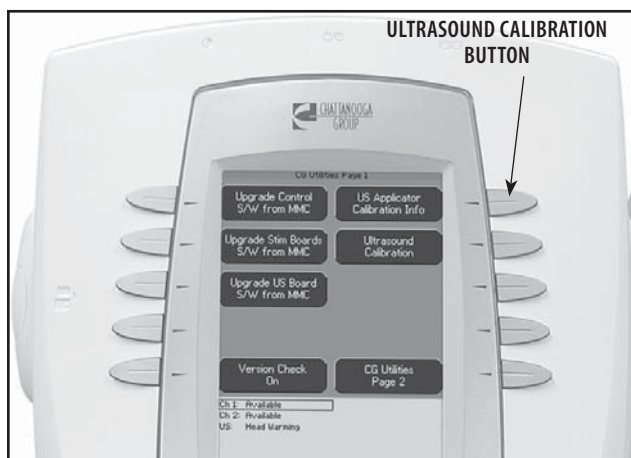

FIGURE 8.2
3. Press the Ultrasound Calibration Button. **See Figure 8.2.**